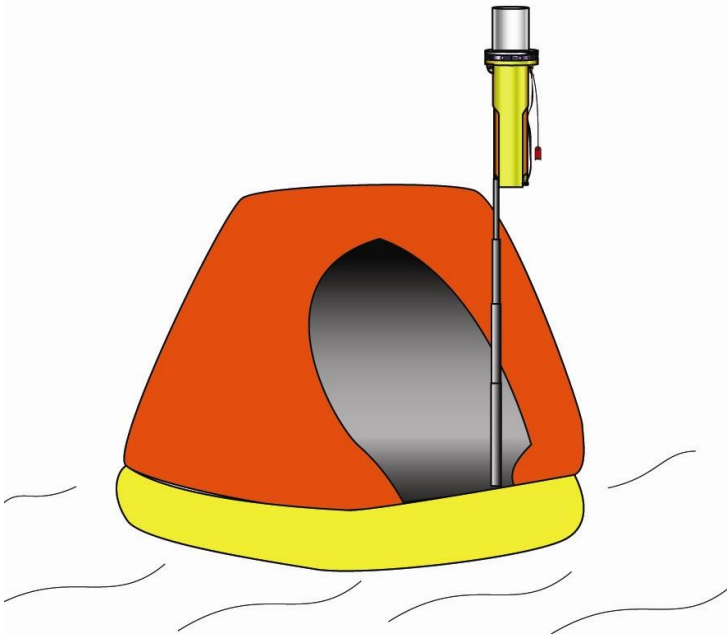

Figure 6
1. The PathFinder™₃ is supplied with a telescopic pole to raise the SART one meter above sea level (see figure 6).